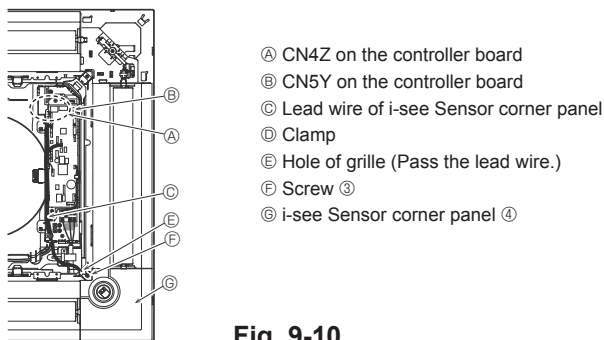

Fig. 9-10
9.4.6. Installation of i-see Sensor corner panel (Fig. 9-10)
- Route the lead wire connector (white, 4 poles and white, 5 poles) of the i-see Sensor corner panel (④) from the side of the electrical box on the main unit and connect to the connector CN4Z and CN5Y on the controller board.